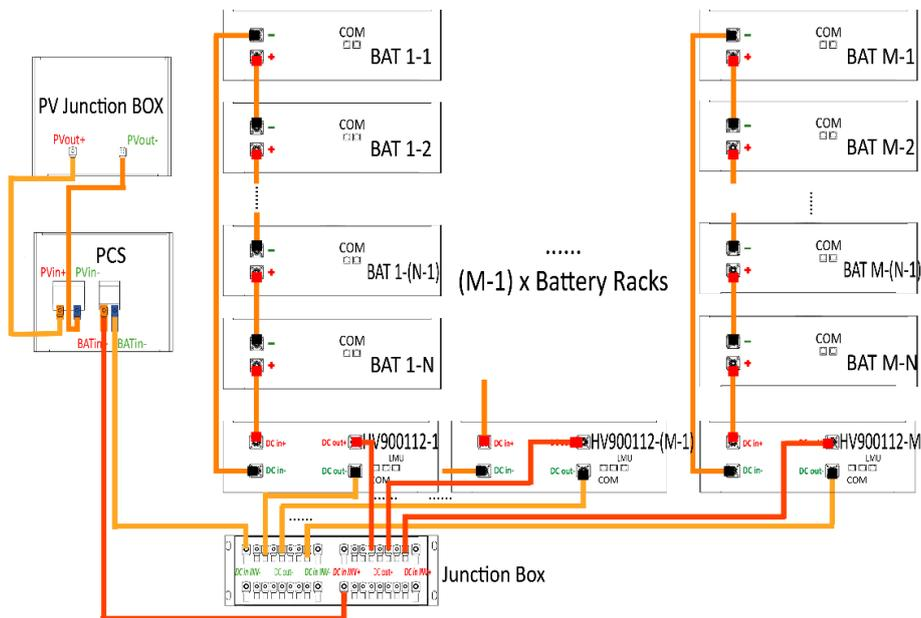

Figure 4.18 Battery side-power cables connection with junction box
- If you use the junction box, place the relevant power cables to junction box at the first, as shown in Figure 4.18. Then put the junction box in to the rack as shown in **Figure 4.19**.